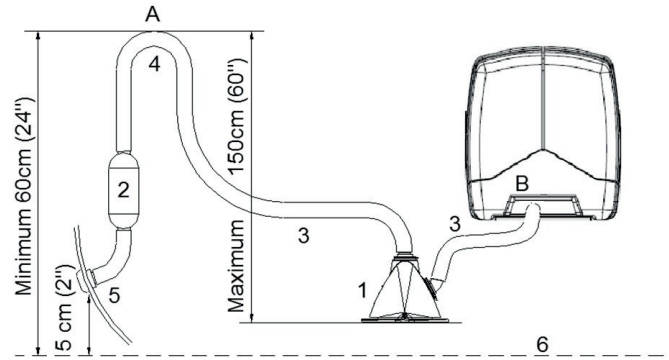

Fig.12: Standard exhaust system
The generating set exhaust system must remain completely independent and separate from the exhaust system of any other engine on board. A water lock prevents the generating set from being flooded by cooling water and should be installed as close to the generating set as possible. The lock must be large enough to hold the entire water volume held in the hose from the top of the goose neck to the water lock. The water lock must be installed at the lowest point of the exhaust system (see Figure 12, ref. 1).
The exhaust hose descends from the capsule to the water lock. Then the hose rises via the "goose neck" to the through-hull exhaust outlet, situated minimum 50 mm above the water line (Figure 12, ref 5). The "goose neck" must be vertical and situated preferable along the ship's keel centre line. If the generating set is mounted less than 600 mm (24") above the waterline, a "goose neck" must be installed to prevent the engine from overflowing. It is recommended to install an extra muffler (Figure 12, ref 2) close to the through-hull fitting.